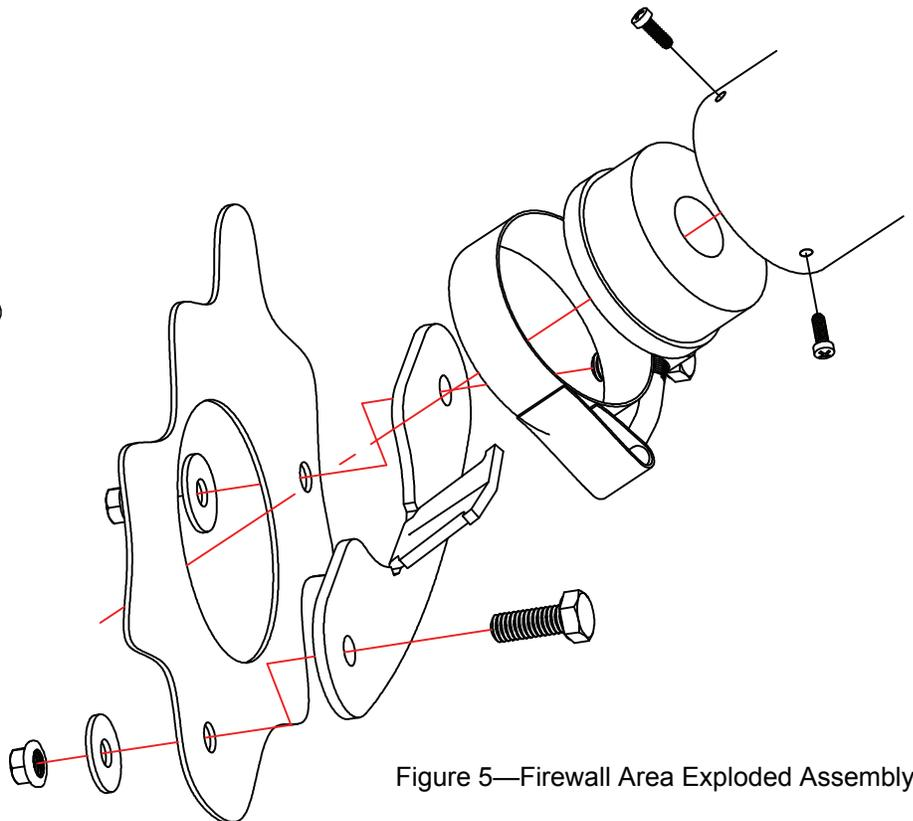

Figure 5—Firewall Area Exploded Assembly
7. Install Column into car and attach bracket to firewall using the 5/16" bolts, washers and nuts as shown in Figure 5.